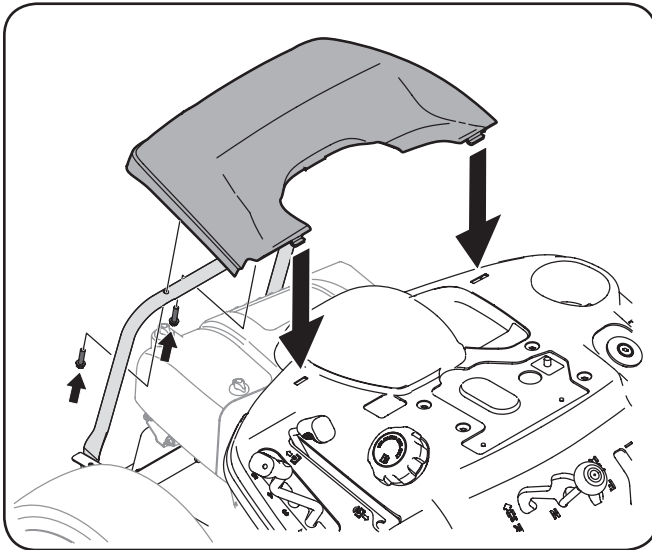

Figure 3-10
1. Remove the two factory installed hex screws located on the rear engine cover mounting bracket. Retain the screws for later instructions. See Figure 3-10.
2. Install the rear engine cover by positioning it in place as shown in Figure 3-10. Tip the engine cover forward to fit it into the slots provided, then rotate it backwards to align the mounting holes.